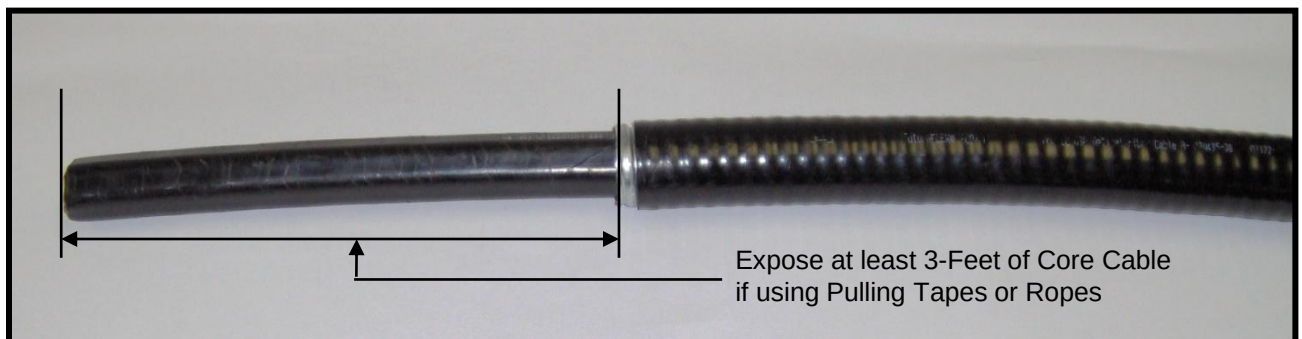

Figure 12
7.5 Unravel the Interlock Galvanized Steel wrap back to where the outer jacket was removed. Bend the steel wrap back and forth until it breaks and remove it from around the core cable. These steps expose approximately 3-feet of the core cable beyond the armor. **See Fig. 12.**